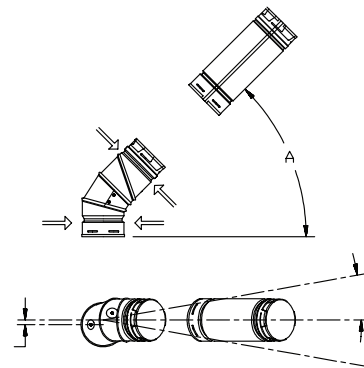

Figure 21
4. 45° Offsets with 90° Elbows. **Figure 21** shows a 90° Adjustable Elbow being utilized to accomplish a 45° offset. This Elbow is completely adjustable from 0° to 90°. Please note that the centers of the upper sections tend to displace by a slight amount, as they are rotated. Again, screws (not longer than 1/4") may be used to secure the joint. Wall Straps should also be utilized to enhance the stability of the vent system.